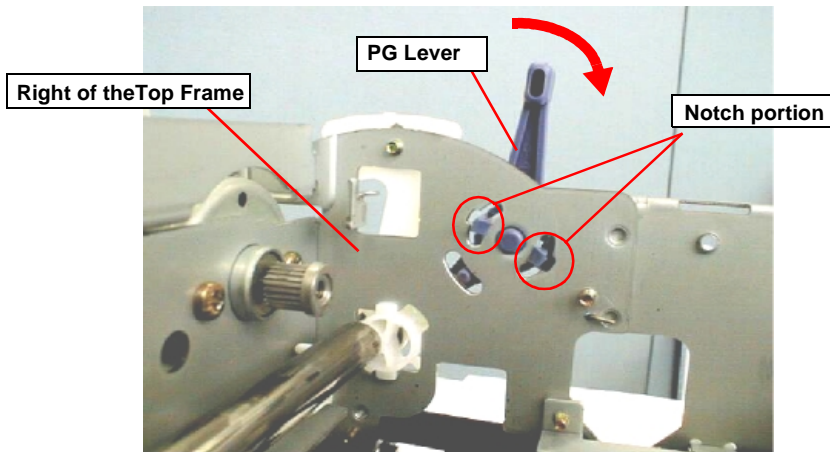

Figure 4-38. Align the PG Lever with the Notches
- 7) Move the PG Lever to bring its hooks to the notches of the cutouts in the right side of the Top Frame. Then remove the PG Lever by releasing the hooks. Refer to Figure 4-38.
- 8) Remove the Torsion Spring 63.7 hanging on the right side of the Top Frame and PG lever with tweezers. Refer to Figure 4-38.
- 9) Release the fixed hook of the PG Lever Support and remove the PG Lever Support and Disk Spring (6.2x0.15x1, S/NA) from the right edge of the CR Guide Shaft. Refer to Figure 4-38.